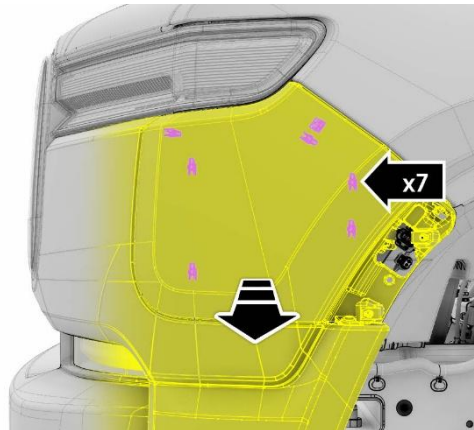

**Figure 17**
3. If available, use plug to prevent reservoir from emptying. (Figure 17)